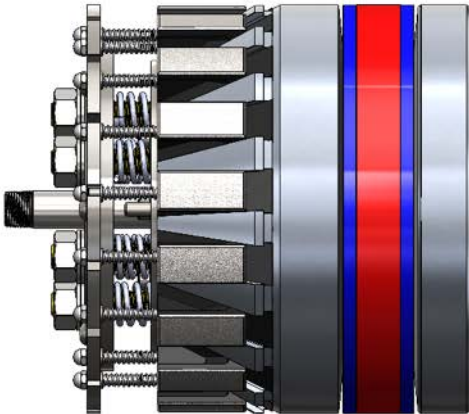
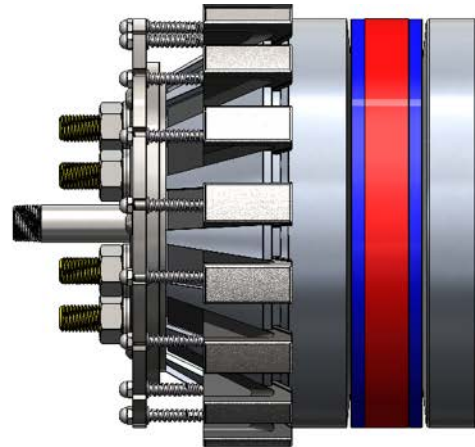

Figure 3: Not Ready to Install
Figure 4: Ready to Install
- The GripSafe ST Outboard Retraction Blocking NPS 4" to 12", 14" SCH 60-160, and 16" SCH 120-160 plugs should be in the "Ready to Install" position from the factory, see Figure 4.
- Ensure the **Compression Hex Nuts(19)** are tightened to the point where the **Spring Plate Hub(18)** is in the Compressed state, see Figure 4, and is flush with the **Retainer Plate(16)**.
- In the Compressed state show in Figure 4, the GripSafe ST Plug will immediately grip the pipe upon insertion.
6.5 If insertion into the pipe proves problematic in the Compressed state, shown in Figure 4, it may be advantageous to insert the plug in the Retracted state, shown in Figure 3. To do so, loosen all **Compression Hex Nuts(19)** to the top of their respective **Compression Shafts(6)**. Care should be taken to not completely remove the **Compression Hex Nuts(19)** from the assembly. In this orientation, the **Wedge Grippers(4)** will be fully retracted and the plug can be inserted freely into the pipe.
NOTE: Plugs that are fitted with SWAT have an opposite "Ready to Install" than those plugs that are not fitted with it. In Figure 4, "Ready to Install" shows a plugs that is in the (**Compressed**) state, **Spring Plate Hub(18)** is flush with the **Retainer Plate(16)**. However, plugs that are fitted with SWAT must be in the "Retracted" state that is shown in both Figures 3 and 11. If the plugs that are fitted with SWAT are in the (**Compressed**) state, all of the **Wedge Grippers(4)** will be energized and inserting the plug into the pipe will require more force than practical.